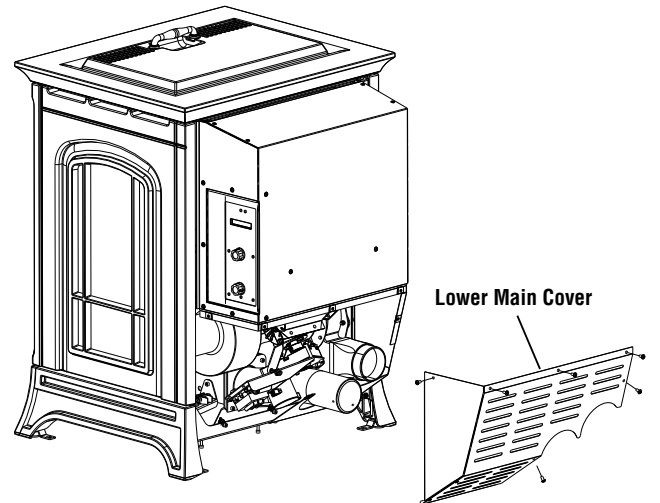

Figure 40
There are three removable covers on the rear of the stove. For normal maintenance, the lower main cover (**Figure 40**) should yield sufficient access to all necessary components. It may be necessary to remove the lower side and bottom covers for the initial installation.
2. Locate the cover (**Figure 40**), using a 5/32" allen wrench, loosen the two screws on the bottom of the panel (it is not necessary to completely remove them).